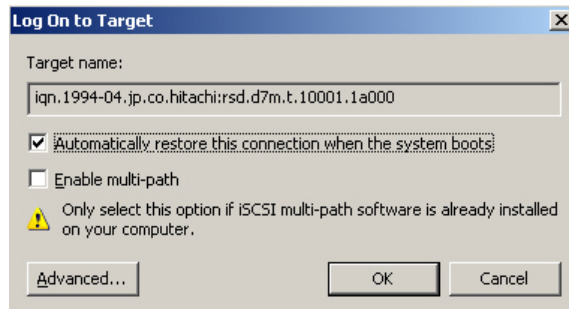

Figure C.13 Log On to Target
12. Select the target to login from the displayed target, then click the Log On button. The Log On to Target dialog box appears (see Figure C.13).
13. To reboot the host each time a reconnection is performed automatically, check **Automatically restore this connection when the system boots** (see Figure C.13).